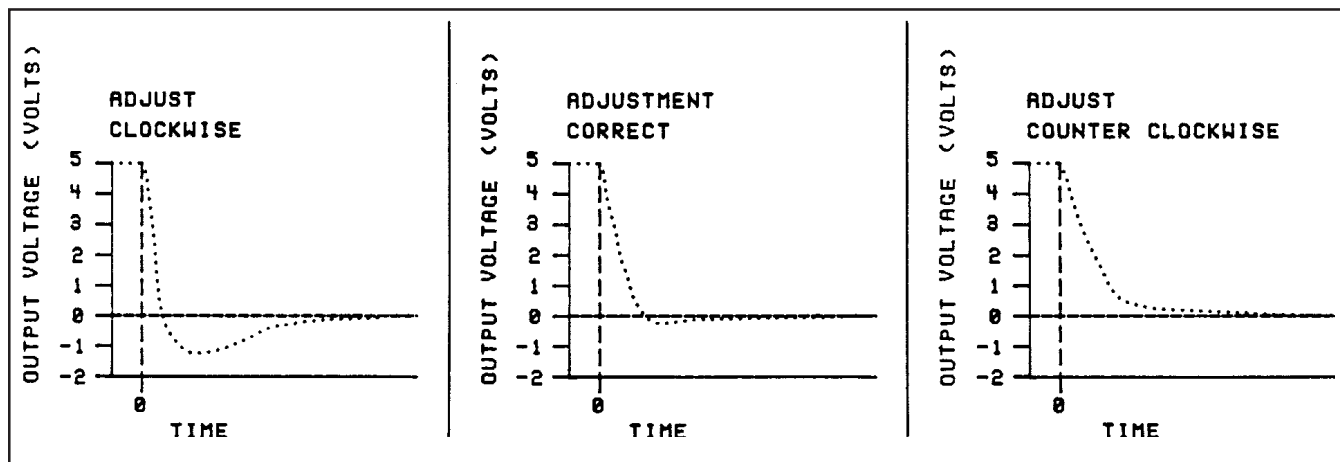

Figure 3-6 Fast Response Adjustment
- c. The behavior of the flow signal during this transition between 100% and 0% flow indicates the adjustment required of the anticipate potentiometer. Refer to Figure 3-6.